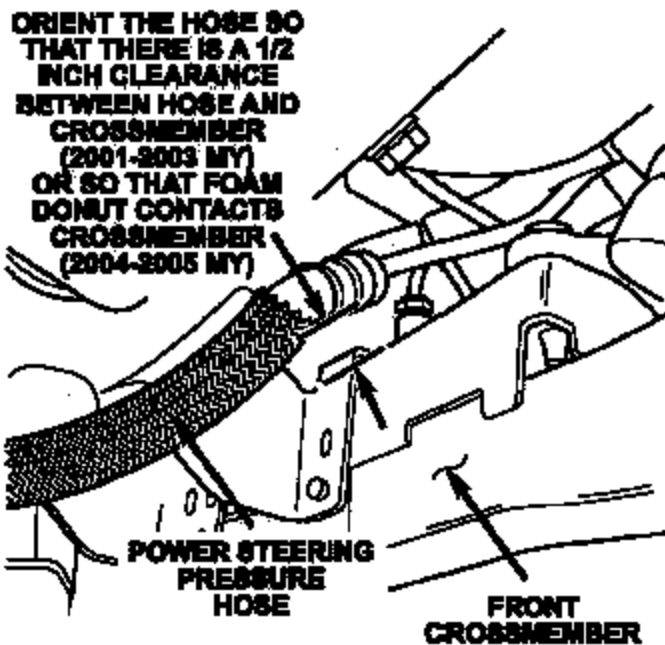

Figure 5
- The hose has 1/2" (12.5 mm) clearance to the front crossmember (2001-2003 model years) (Figure 5).